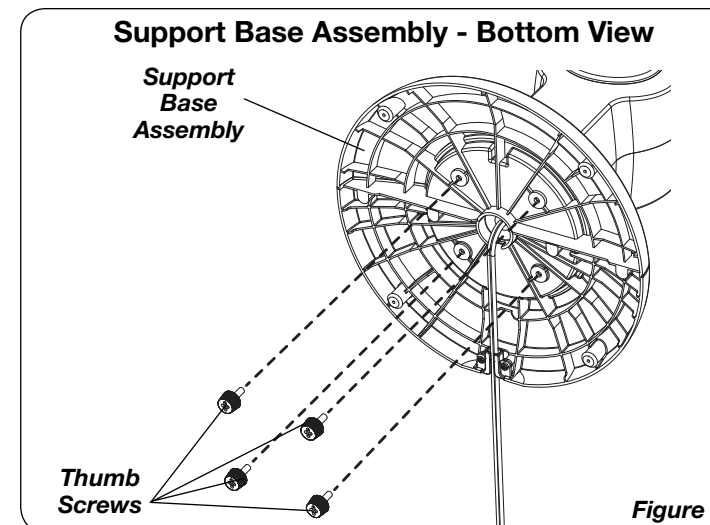

Figure 2
3. Secure the (4) **thumb Screws** into the four holes in the bottom of the base. (Figure 2)